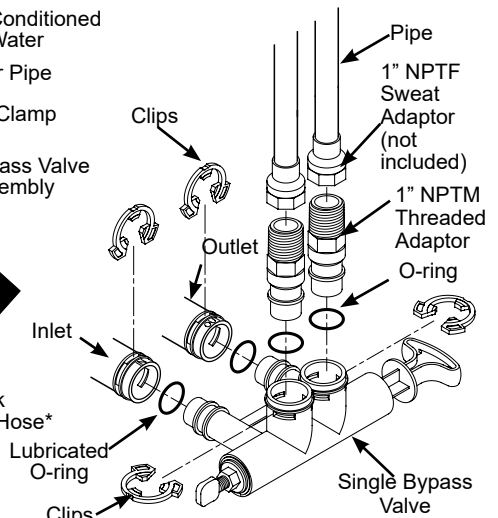

Figure 7
1. Remove two clips from the water softener valve inlet and outlet ports and visually check and remove any debris, (see Figure 7).
3. If not already done, put a light coating of silicone grease (provided) on the single bypass valve o-rings, (see Figure 7).
4. Push the single bypass valve into the softener valve as far as it will go. Snap the two large holding clips into place, from the top down, (see Figure 7 and 10).